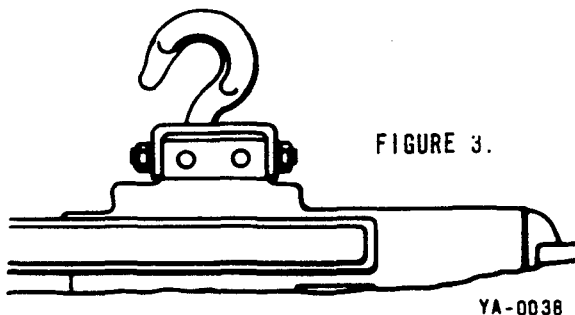

FIGURE 3.
The Hook Suspension, see Figure 3, is attached to the hoist by removing the two (2) bolts furnished and slipping the hook adapter over the hoist frame lugs. Insert bolts and tighten mounting securely to the hoist.